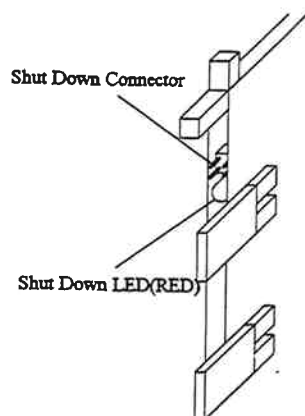

Fig. 3.7.5.3.2-3 Shut Down LED
- a. Confirm that the Shut Down LED lights.(Fig. 3.7.5.3.2-3) If the LED does not light, see Connection of Shut Down Jumper(INST03-2600).